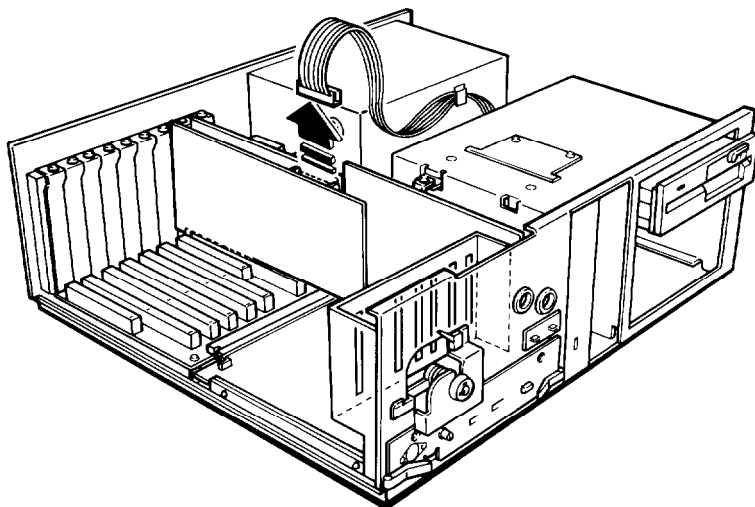

Figure A-10. Disconnecting *disk drive cable*
1. Unplug the disk drive cable from the card as shown in Figure A-10. Pull it straight up and out, then lay it to one side.